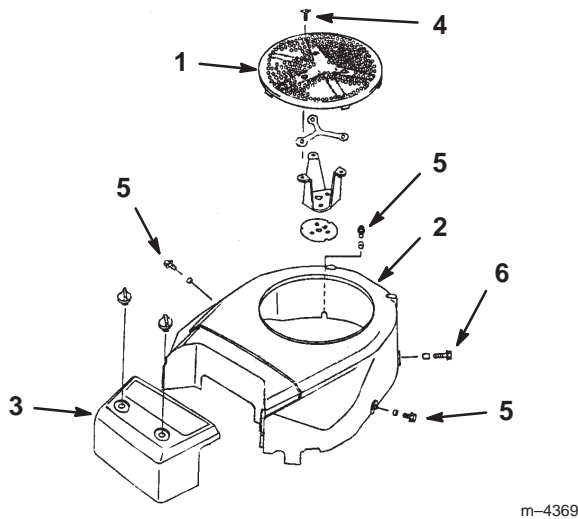

Figure 33
2. Remove the air intake screen, air cleaner cover, fan housing, and bolts (Fig. 33).
4. Reinstall the air intake screen, air cleaner cover, fan housing, and bolts (Fig. 33). Torque the bolts to 4.3 ft-lb (5.8 N·m).